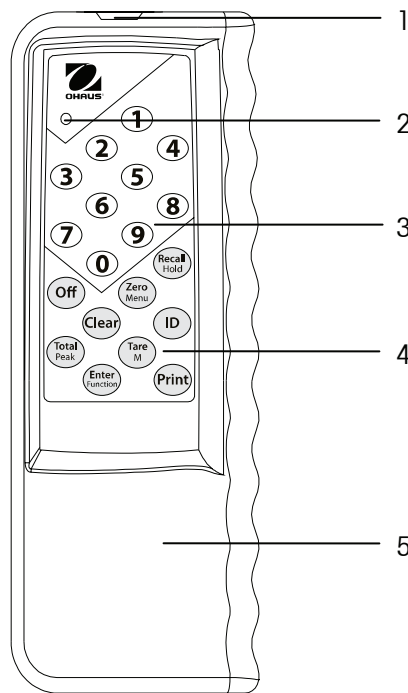

Figure 1-4. Remote Controller (optional)
The remote controller operates the scale similarly to the control buttons on the scale, with the addition of **numeric (0-9)**, **ID** and **Print** buttons (see Section 1.3, Figure 1-4). Functions such as entering commodity ID, numeric settings (such as tare and menu settings) and printing (not available with this product) are accessed only through the remote controller. To enter the commodity ID, press **ID** then the number (0-9) via the numeric keypad.
- The remote controller requires two (2) AA Alkaline batteries.
- To test the remote controller, press any key while observing the indicator light on the upper left-hand side of the control (see Section 1.3, Figure 1-4, item 5). If it fails to light when a key is pressed, replace the batteries.
- To replace the battery, remove the remote controller by pushing the head of the controller slowly out from the upper opening on the back of the yellow rubber housing (see Section 1.3, Figure 1-4, item 5), then pull out the controller. After replacing the batteries, slip the controller back into the rubber housing.